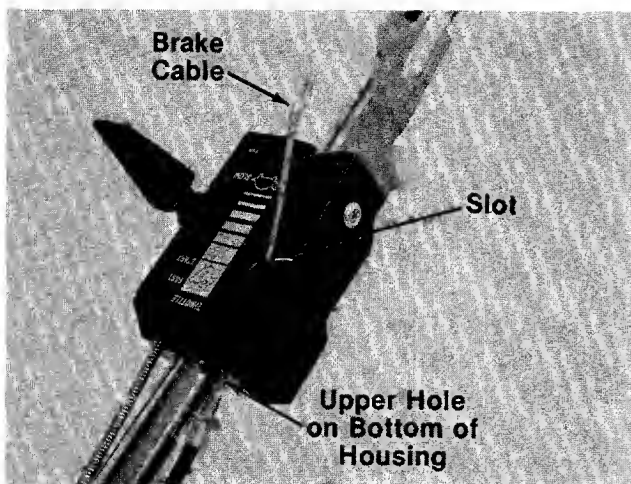

FIGURE 5.
7. Place the end of the brake cable into the upper hole on the bottom of the control housing, and through the slot as shown in figure 5. Be careful not to bend or kink the cable.